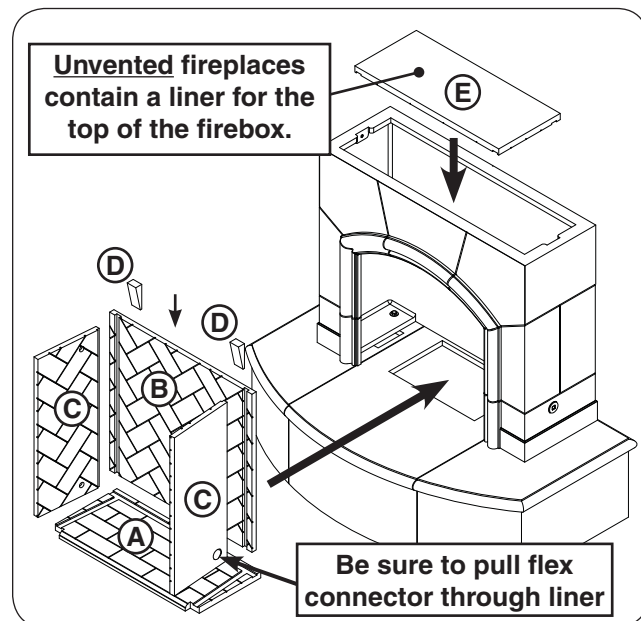

Fig. 20-3 Install firebox liners
1. Install the firebox liners into the interior of the firebox in the order shown in Fig. 20-3: